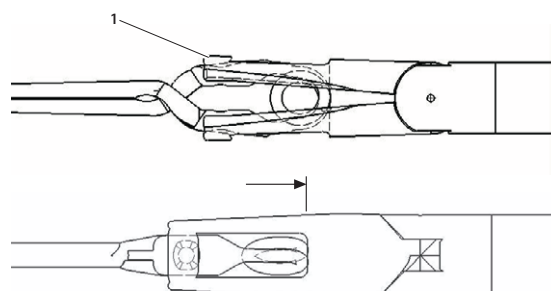

Fig. 2
- ▶ Insert the clips into the jaw pieces 1 of the clip applying/removal forceps as far as they will go, see Fig. 2.